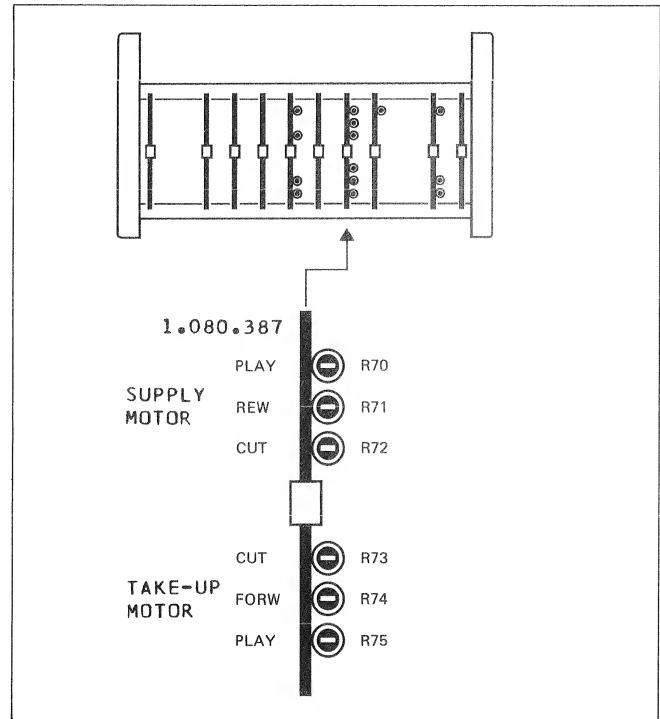

Fig.4.3
Einstellung: -> Fig.4.3/4.6/4.7
-> Fig.4.3/4.8